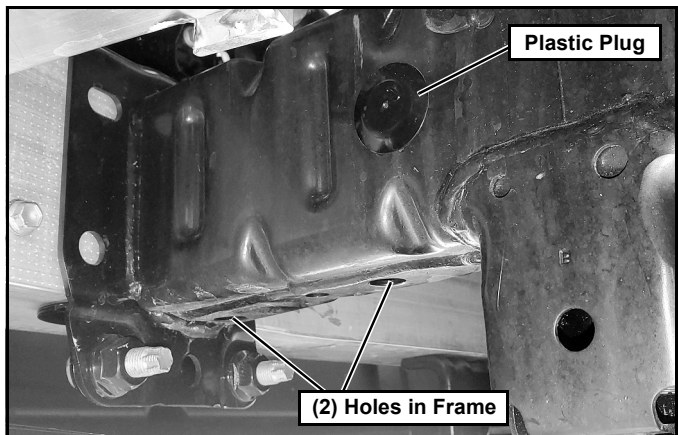
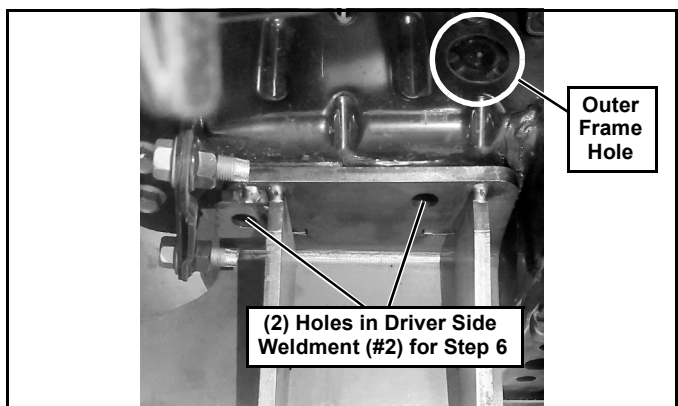
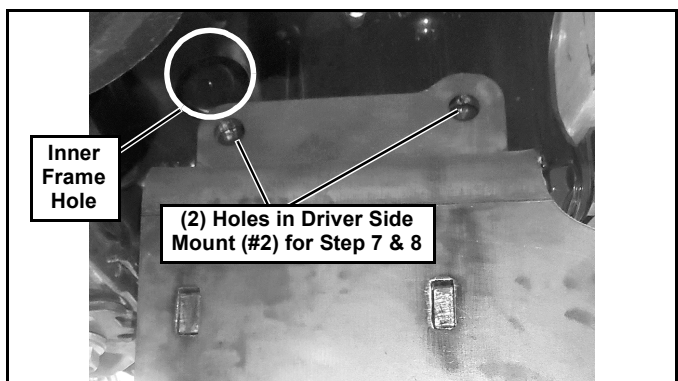

Figure 4
Figure 5
Figure 6
- Find and remove the four plastic plugs on the vehicle frame rails. (See Figure 4.) They are on the inside and outside of each frame rail. These holes will be used for hardware access.
- Fit the Driver Side Mount Weldment (#2) to the driver side frame rail by aligning the holes in the frame (See Figure 4.) to the holes in the weldment. (See Figure 5.)
- Secure the Driver Side Mount Weldment (#2) to the bottom of the frame rail with (2) 1/2"-13 x 1-1/2" Handle Bolt Weldments (#4) and (2) 1/2"-13 Locknuts (#5). The first 1/2"-13 x 1-1/2" Handle Bolt Weldment (#4) should enter the truck frame from the inner frame hole and attach to the nearest hole. The next 1/2"-13 x 1-1/2" Handle Bolt Weldment (#4) should enter the same hole but attach to the farthest hole. (See Figure 5 & Figure 6.)